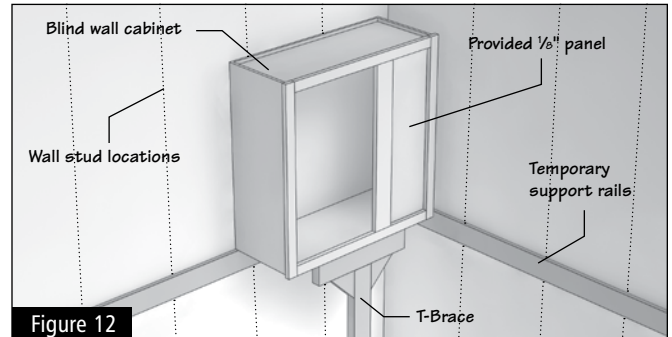

Figure 12
- 3.7** If there is a blind corner cabinet, the opening should be sealed at this point with the ½" panel packed inside the cabinet. Pre-drill for small finishing nails or use a pin nailer. (Figure 12)